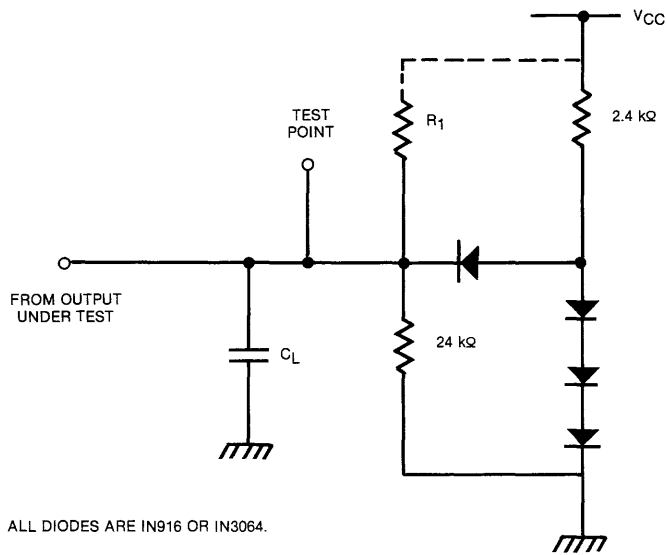

Figure 14. TEST LOAD CIRCUIT
- Figure 14 shows the load circuit used to measure the timing characteristics of output and I/O pins. A value of $C_L = 100$ pF is used except where otherwise stated. R_1 is only included for open drain outputs.